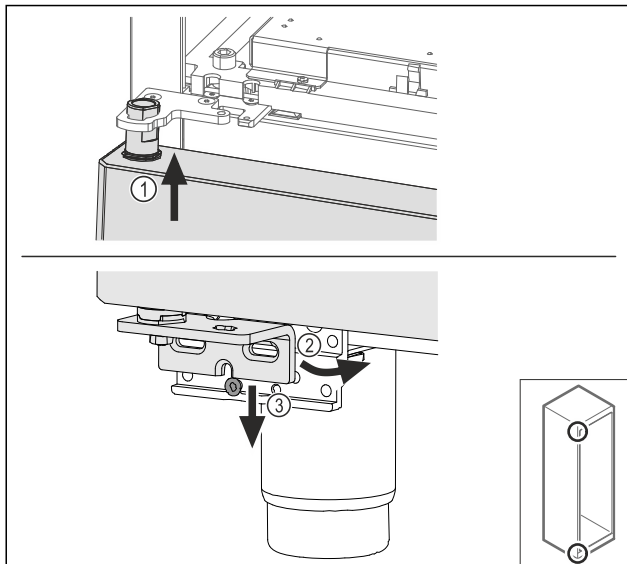

Fig. 63
- Insert the door slightly tilted at the top Fig. 63 (1), align the door straight Fig. 63 (2) and place it on the bottom of the swap bearing block screw Fig. 63 (3).